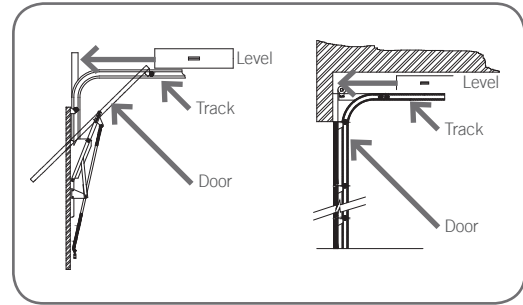

Fig. 13
- Using a level, transfer this height to the wall above the door (**Fig. 13**) and mark a line 60mm above it.